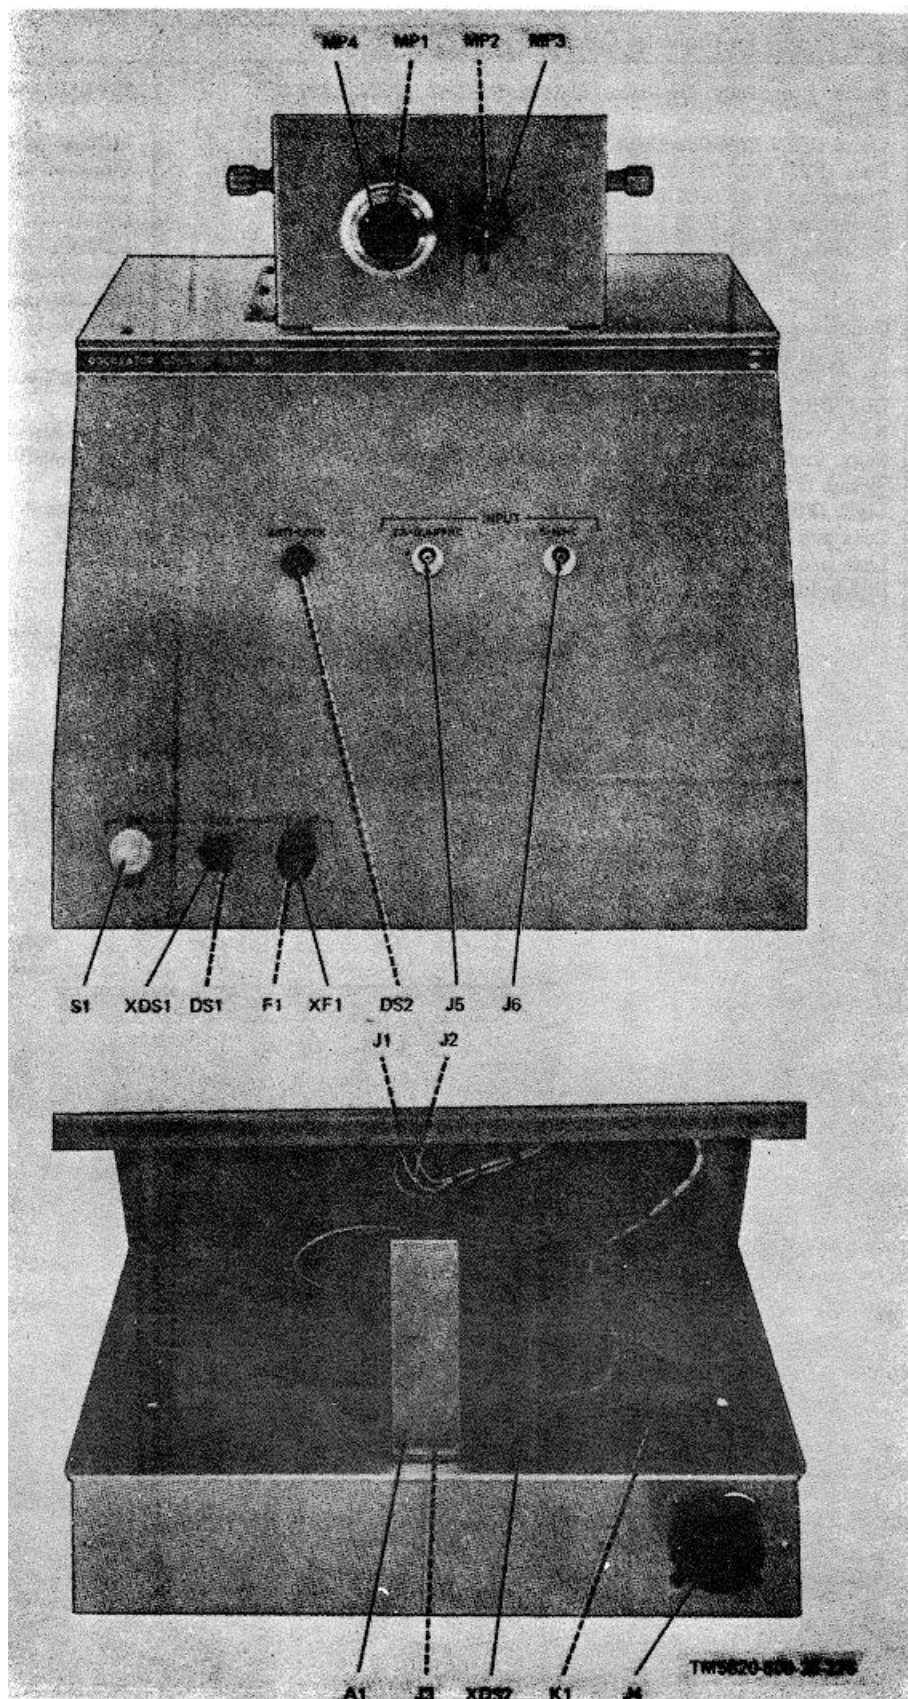
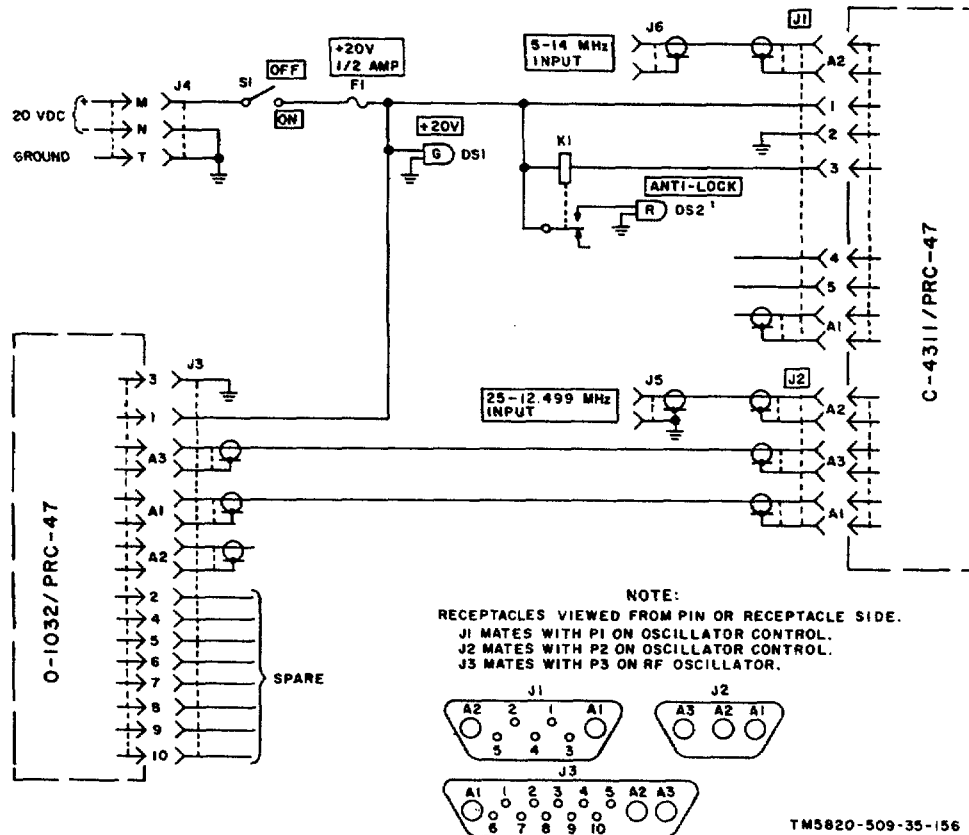

Figure 6-27. Test Fixture for oscillator Control C-4311/PRC-47, Parts Location.
Figure 7-20. Test Fixture for Oscillator Control C-4311/PRC-47, Schematic Diagram.
(4) ANTI-LOCX lamp. This lamp is lit when the anti-lock dc output from the module under test is present.
(5) Coaxial connectors are provided for the connection of signal leads and test equipment and these are self-explanatory.
c. The piece parts required for fabrication of the test fissure are listed in the following chart and suggested parts placement is shown in figure 6-27. Schematic diagram (fig. 7-20) illustrates the internal circuit of the test fixture.